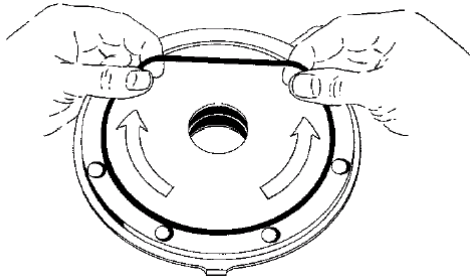

Figure 7
2. Install a new head O-ring (72) in the groove in the head. Lightly grease the outside circumference of the O-ring to facilitate head installation. Start in on one side of the groove, stretching ahead with the fingers, as shown in Figure 7.